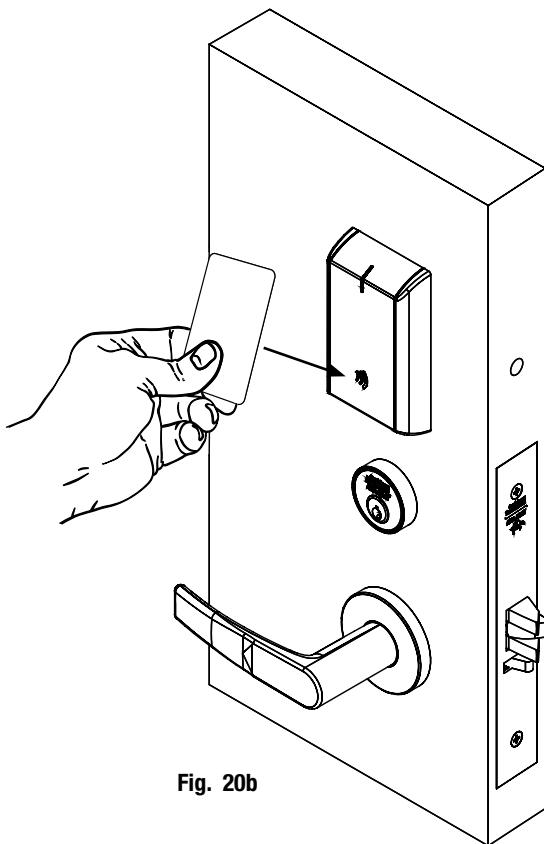

Fig. 20b
- Present a valid credential\* (Fig. 20b) to unlock outside lever; turn lever handle to ensure latch retracts.
Note: The credential should approach the inscription on the reader as indicated (Fig. 20b) to ensure that the credential is read properly.